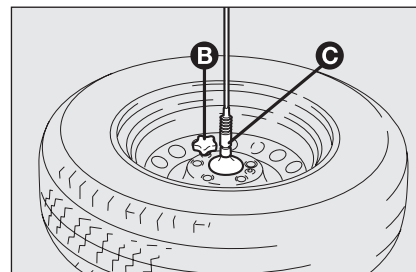

fig. 6
- ❑ Remove cap **B-fig. 6** and release the retaining cable, then free the wheel from the toothed support **C** unscrewing the 2 screws.